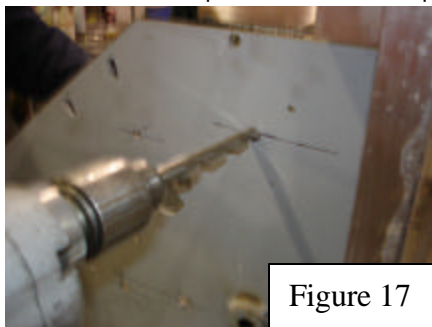

Figure 17
22. Remove 1pc Gate Guide and drill ½" holes where marked (figure 17)